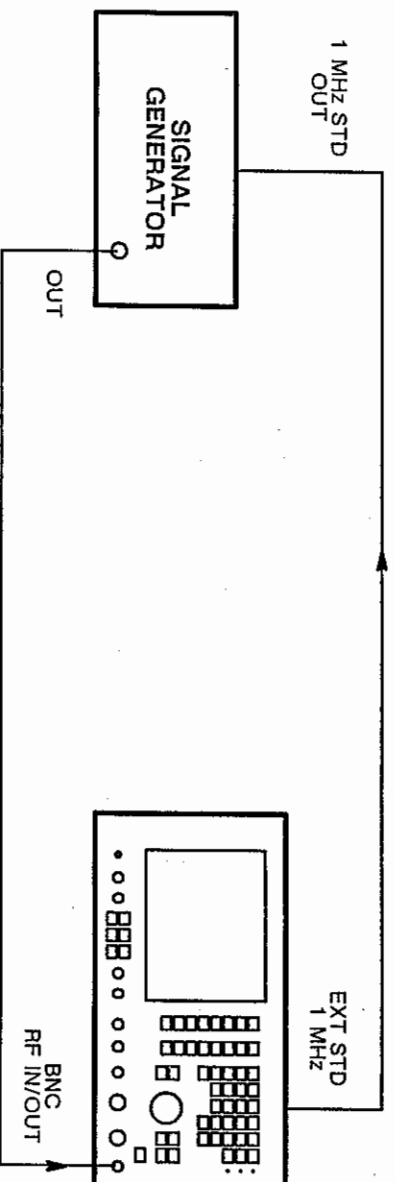

Fig. 6-9 Test equipment connections for RF frequency meter frequency
- (1) Connect the signal generator 1 MHz standard output to the EXT STD 1 MHz socket. Connect the signal generator variable output to the RF IN/OUT BNC socket. See Fig. 6-9.
- (2) On the 2955A, set the MODE to TRANSMITTER TEST and RF IN/OUT socket to BNC.
- (3) Set the signal generator carrier frequency to 1000 MHz, level to 7 dBm and modulation to off.
- (4) Check that the TX FREQ reading is the same as the signal generator setting  $\pm 1$  digit.
- (5) Repeat (3) and (4) at other frequencies between 1.5 and 1000 MHz.